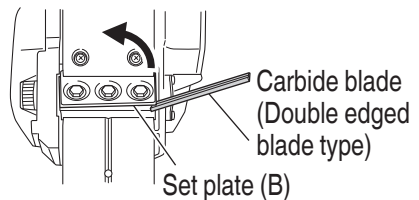

Fig. 10
- (1) As shown in **Fig. 10**, lift set plate (B) and insert the new carbide blade between cutter block and set plate (B).